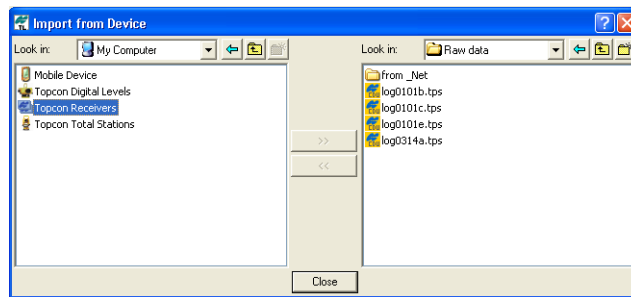

Figure 5-5. Import From Device Window
3. From the left panel of the *Import from Device* dialog box, double-click *Topcon Receivers* (Figure 5-5).